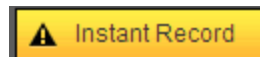

Figure 5-7
- Section 4: Instant record button. Click it, the button becomes yellow and system begins manual record. See Figure 5-7. Click it again, system restores previous record mode.